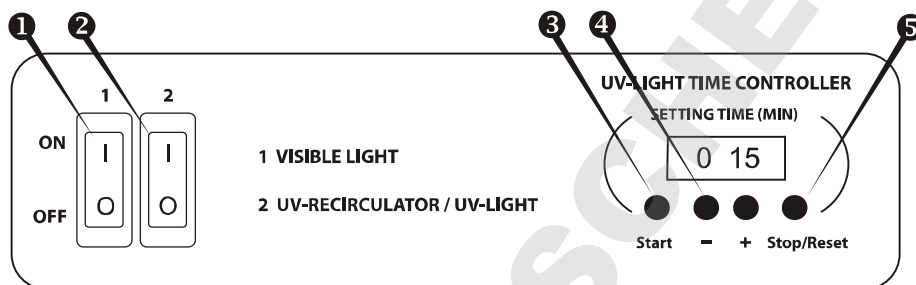

Fig.1. Control Panel
4.2.1. Turn ON **switch 2** (Fig.1/②). This automatically turns on the UV-recirculator with the hidden UV-lamp and activates the timer of open UV-lamp. The UV-recirculator will operate all the time until **switch 2** is turned OFF.
4.2.2. Use the timer keys + and - (Fig.1/④) to set the time (UV-LIGHT TIME CONTROLLER) of direct UV light exposure of the working place:
4.2.3. Press the **Start** key (Fig.1/③), the open UV lamp automatically will be turned on and timer starts counting up the exposure time. Timer indicator shows actual time: until 1 hour - in minutes and seconds (min:sec), after 1 hour - in hours and minutes (hh:mm).
4.2.4. The open UV-lamp can be switched off by pressing **Stop/Reset** key (Fig.1/⑤). The set time of exposure is preserved in the memory. The set time won't be preserved after the complete switching off the UV-cleaner box.
4.3.1. Turn ON **switch 1** (Fig.1/①) for lighting of the working place (this turns ON the Luminescent (Visible light) lamp).